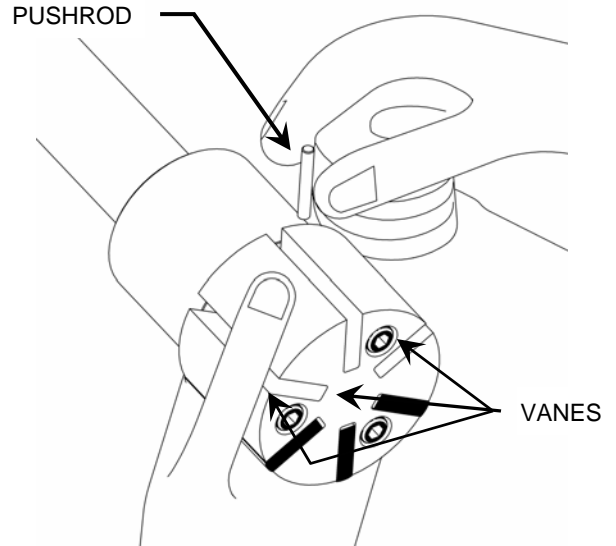

Figure 13 – Pushrod Installation
- Hold the three bottom vanes in place while inserting the three push rods (77). See Figure 13
- Install the rotor and shaft assembly (13) with the rotating seal elements into the bearing housing from the sleeve bearing end putting the shaft through the ball bearing and lightly securing it with the set screws on the ball bearing.